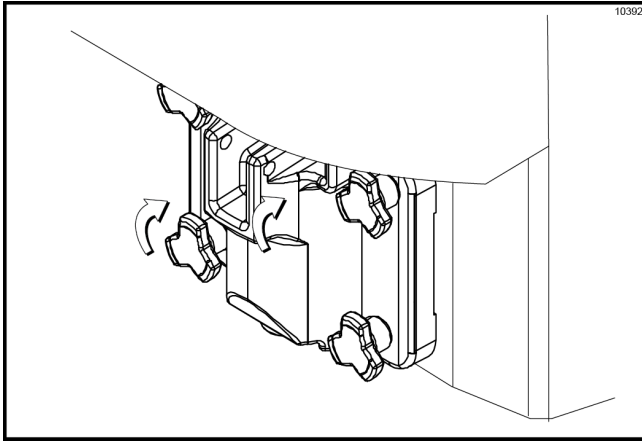

Figure-139
14. Insert the baffle rod through the beater in the freezing cylinder. With the door seated on the freezer studs, install the handscrews. Tighten equally in a crisscross pattern to ensure the door is secure. (See Figure-139.)